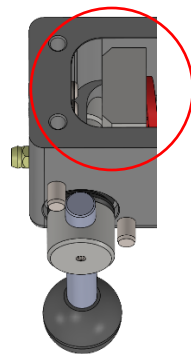

Figure 12: Inserting internal locking block
12. Set the internal locking block into the housing beside the CAM shaft in the correct unlocked orientation (*Figure 12*).